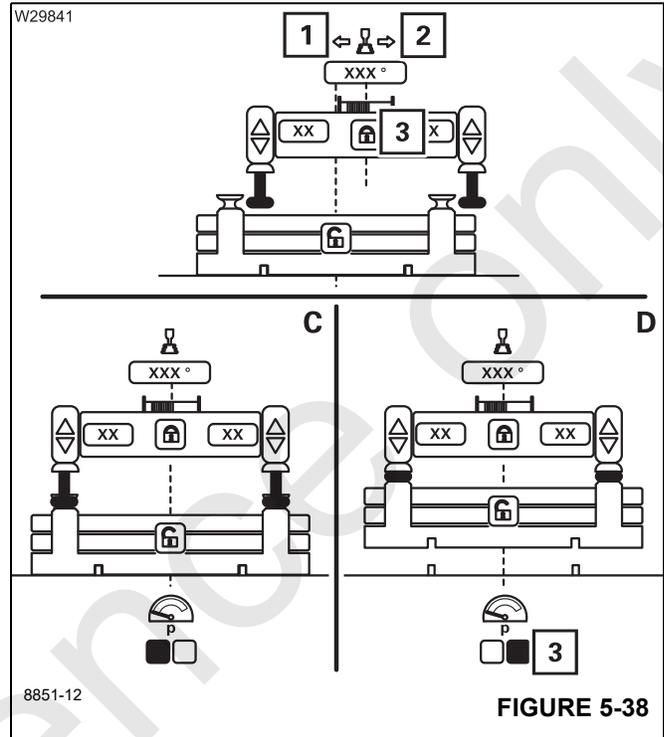

FIGURE 5-38
- To swing, move the control lever in the displayed direction (1), (Figure 5-38) or (2), (Figure 5-38) – the automatic mode continues.
- The superstructure turns into position (C), (Figure 5-38).
- The lifting cylinders are retracted (D), (Figure 5-38).
- The counterweight is pre-charged – symbol (3), (Figure 5-38) green.